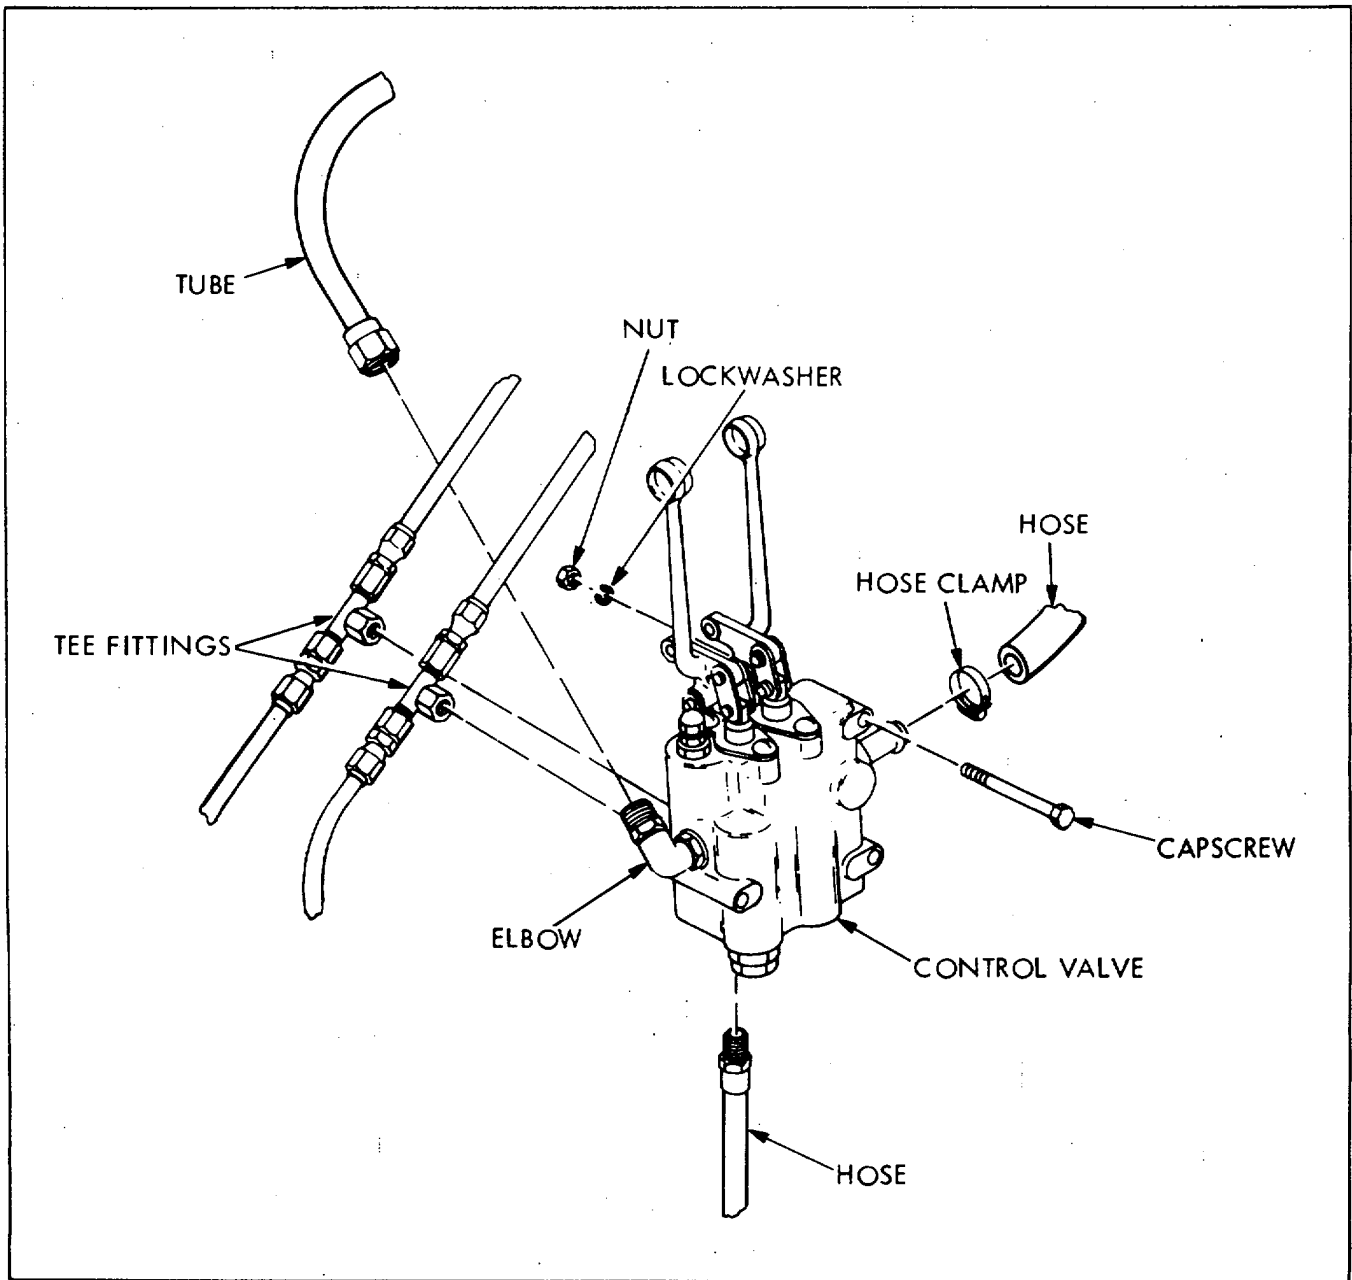

Figure 6-18. Lift and Tilt Control Valve Removal
(1) Disconnect tube at elbow (figure 6-18) after draining hydraulic tank.
(2) Disconnect tee fittings at control valve.
(3) Loosen hose clamp and remove upper hose.
(4) Disconnect lower hose from control valve.
(5) Remove capscrews, nuts, and washers, and remove valve from truck.
(6) Remove elbows and adapters from valve. Replace them on hoses for safekeeping, as they can be reused if not damaged. Be certain to plug or cap all hoses to exclude dirt.